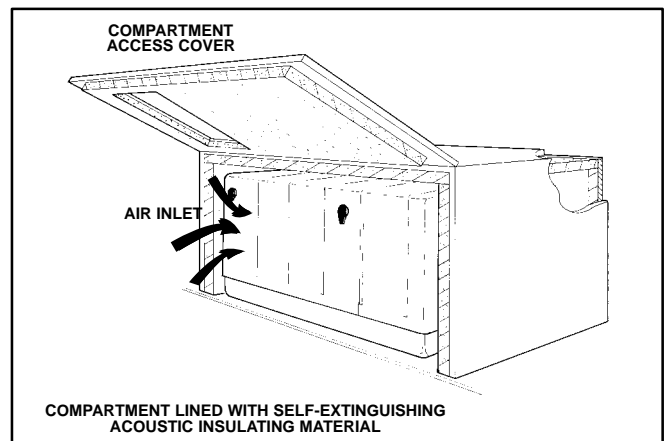

FIGURE 4. COMPARTMENT WITH ACOUSTIC INSULATION
7. See the outline drawing (Page 21) for the minimum inside dimensions of a genset compartment. If the compartment has acoustic insulation (Figure 4), increase the minimum compartment dimensions by the thicknesses of the insulation panels. The following minimum clearances are required between the genset and the compartment or its insulation:
8. Acoustic insulation and adhesive (Figure 4) should be Classified as “Self-Extinguishing” at not less than 200°F (90°C). Do not line the bottom of the compartment with insulation—insulation absorbs spilled fuel and oil.